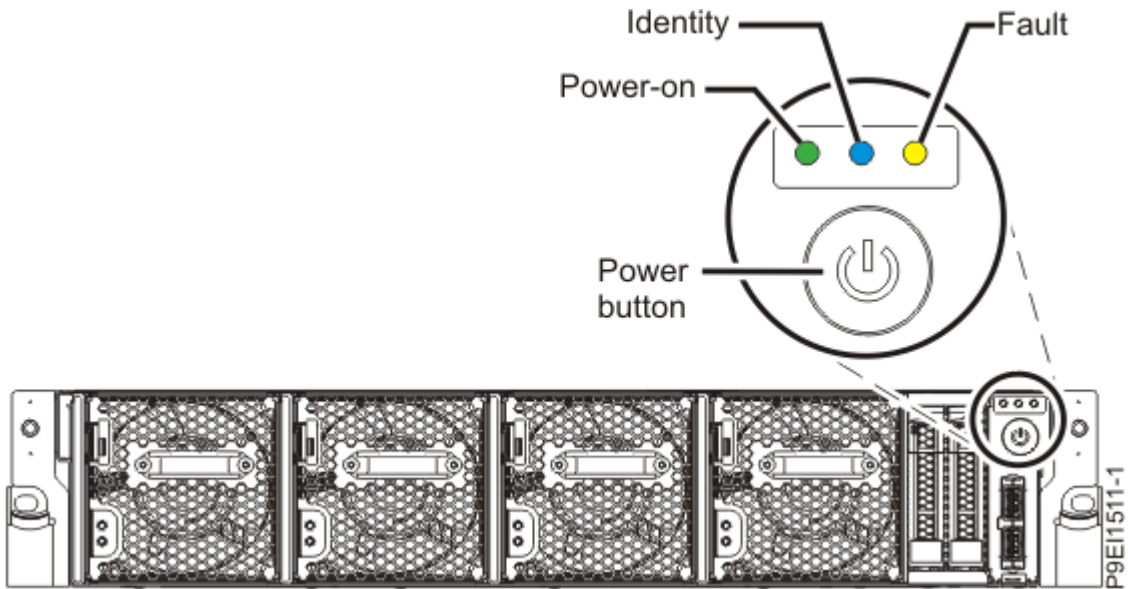

Figure 115. Power button
- The power-on LED as shown in Figure 115 on page 145, is flashing. A flashing light indicates standby power to the unit.
3. Press the power button that is shown in Figure 115 on page 145.